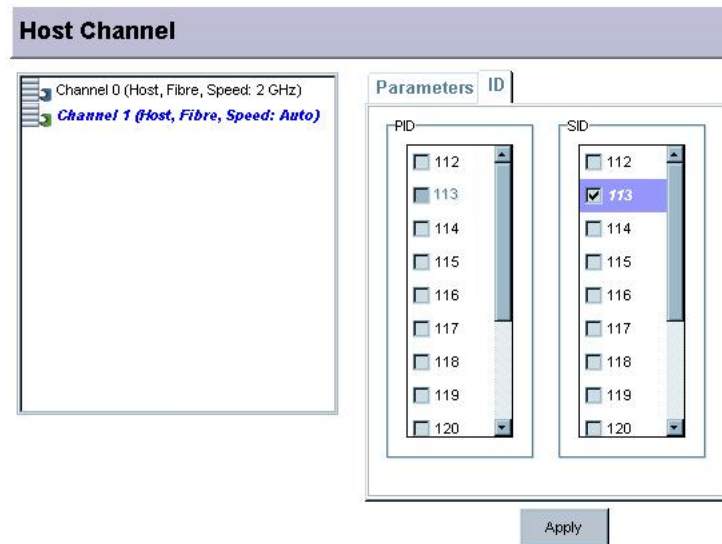

Figure 8-5: ID Pool Menu
-  **Step 3.** If you want to assign a different ID to the selected channel, choose the **ID** panel. An **ID pool** scroll menu will appear as shown in *Figure 8-5*.